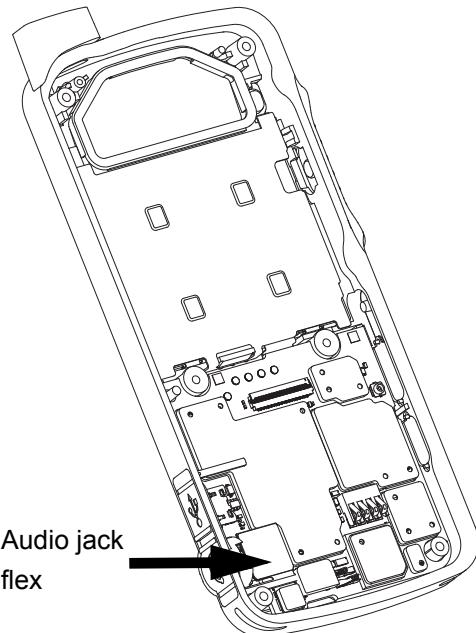

Figure 5-23. Audio jack connector reassembly
1. Place the audio jack into its recess on the front housing as shown in Figure 5-23.